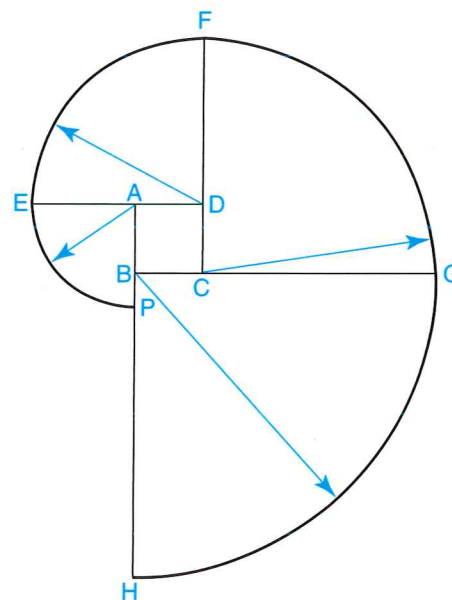

Figure 7-29. Constructing an involute of a square.
1. Square ABCD and a starting point (Point P) are given, **Figure 7-29**.
1. Square ABCD and a starting point (Point P) are given. Refer to **Figure 7-29**.
3. Enter the **Arc** command. To draw Arc PE, enter the **Start, Center, Angle** option. Specify Point P as the start point and Point A as the center point. Specify the angle as -90° . This angle will draw the arc in a clockwise direction and is calculated as a right angle (Angle PAE is formed by two perpendicular lines). Refer to **Figure 7-29**.